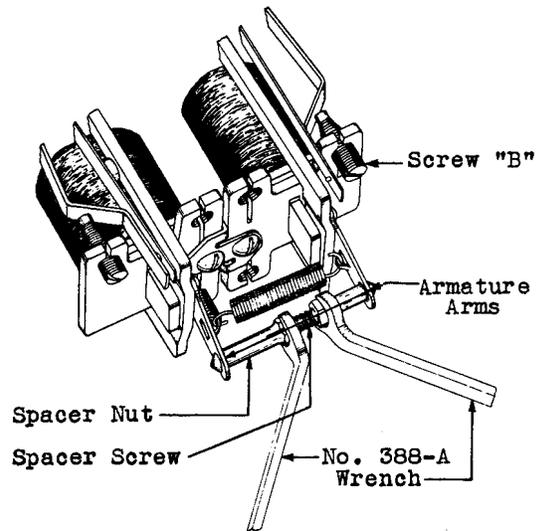

Fig. 7 - Method of Adjusting for the Operated Position of Armatures
- M-1 If the gap, between the left-hand armature and the core in the operated position is not within the specified limits, turn the spacer screw with the No. 388-A wrench holding the spacer nut with another No. 388-A wrench as shown in Fig. 7. To increase or decrease the operated air-gap, move the wrench up or down respectively,
- M-2 If the travel is excessive turn screw "B" (See Fig. 7) in a clockwise direction with the No. 35 screw-driver. Note whether or not the contact separation requirement is still met. If the right-hand armature does not touch its core, readjust the contact follow or the back pressure in accordance with procedures 3.10 and 3.13.